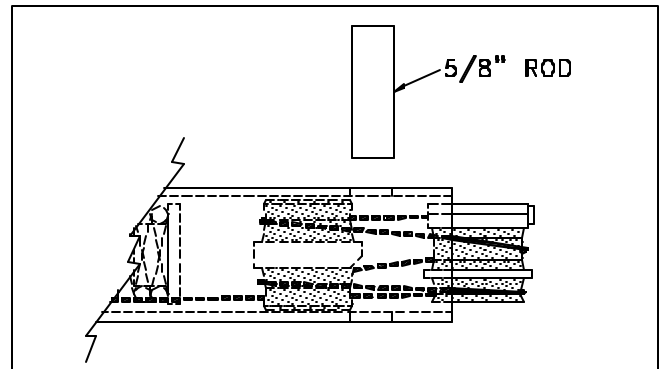

Figure 18
10. Once you have the cable wrapped properly, pull slowly on the other end of the cable while holding the pulleys and swage in place with the other hand to prevent the cable from unwrapping. Keep tension on the cable and slide the pulleys into the AutoStop tube. (Figure 18) When the second set of pulleys start into the tube, stop and remove the 5/8 rod.